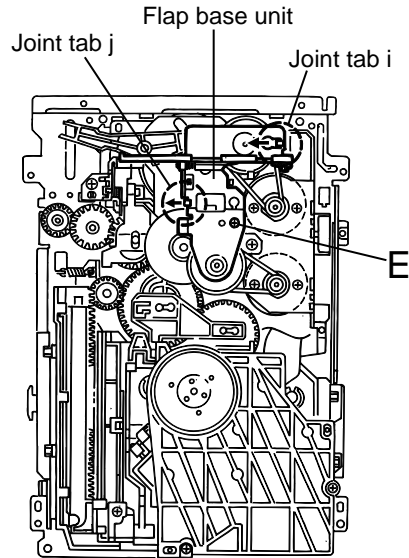

Fig.13
■ Removing the flap base unit and the gear base unit (See Fig.13 and 14)
• Prior to performing the following procedures, remove the servo control board, the top cover, the tray unit, the side unit (L) and the side unit (R).